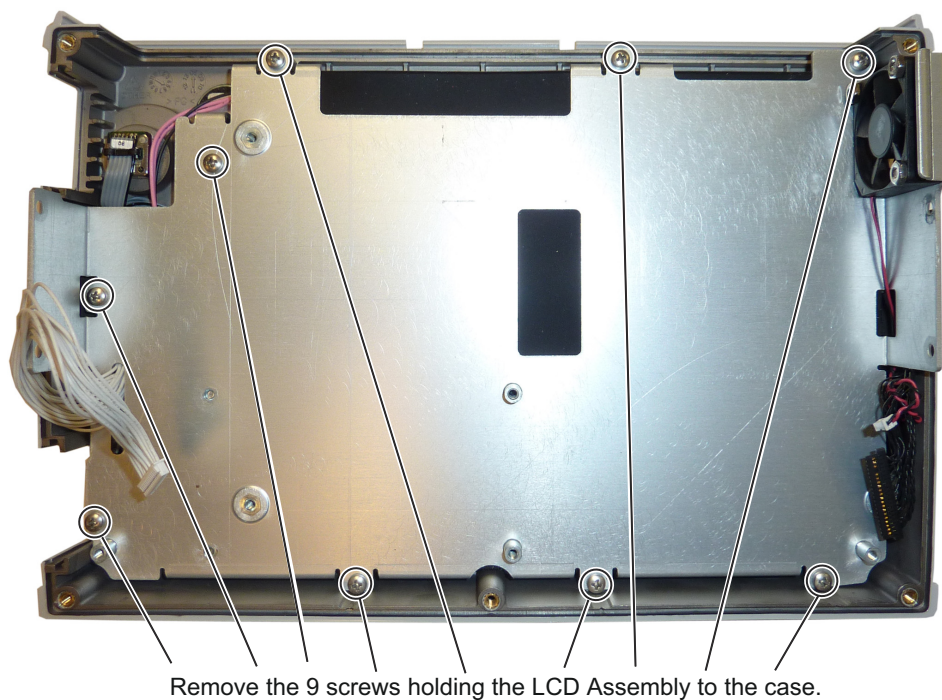

Figure 6-10. Removing the LCD Assembly
3. Remove the 9 screws connecting the LCD Assembly to the front half of the case (Figure 6-10).